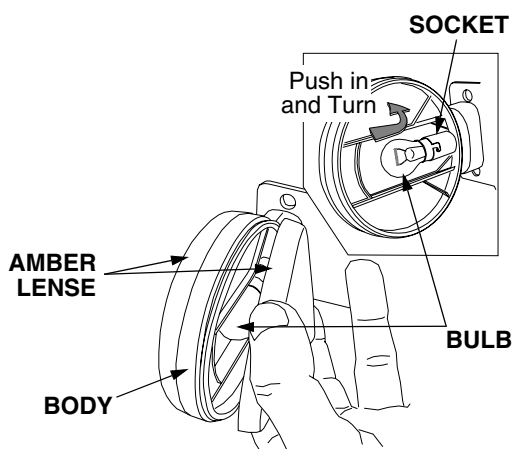

Figure 35
- Insert a **thin** bladed screwdriver, or similar tool, between an amber lense and the hazard light body, then twist to separate the lense from the body. Refer to Figure 35.
- Push the bulb inward and turn counterclockwise, then pull the bulb outward to remove from the light socket. See Figure 35.